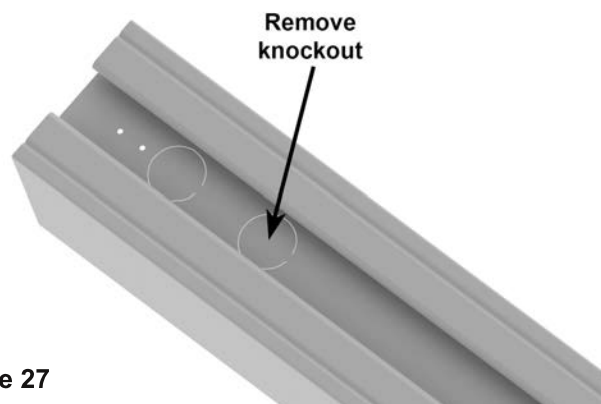

Figure 27
- Remove the knockout from the Trunk. Knockouts pop out best when driven from the bottom or inside of the Trunk. See Figure 27.